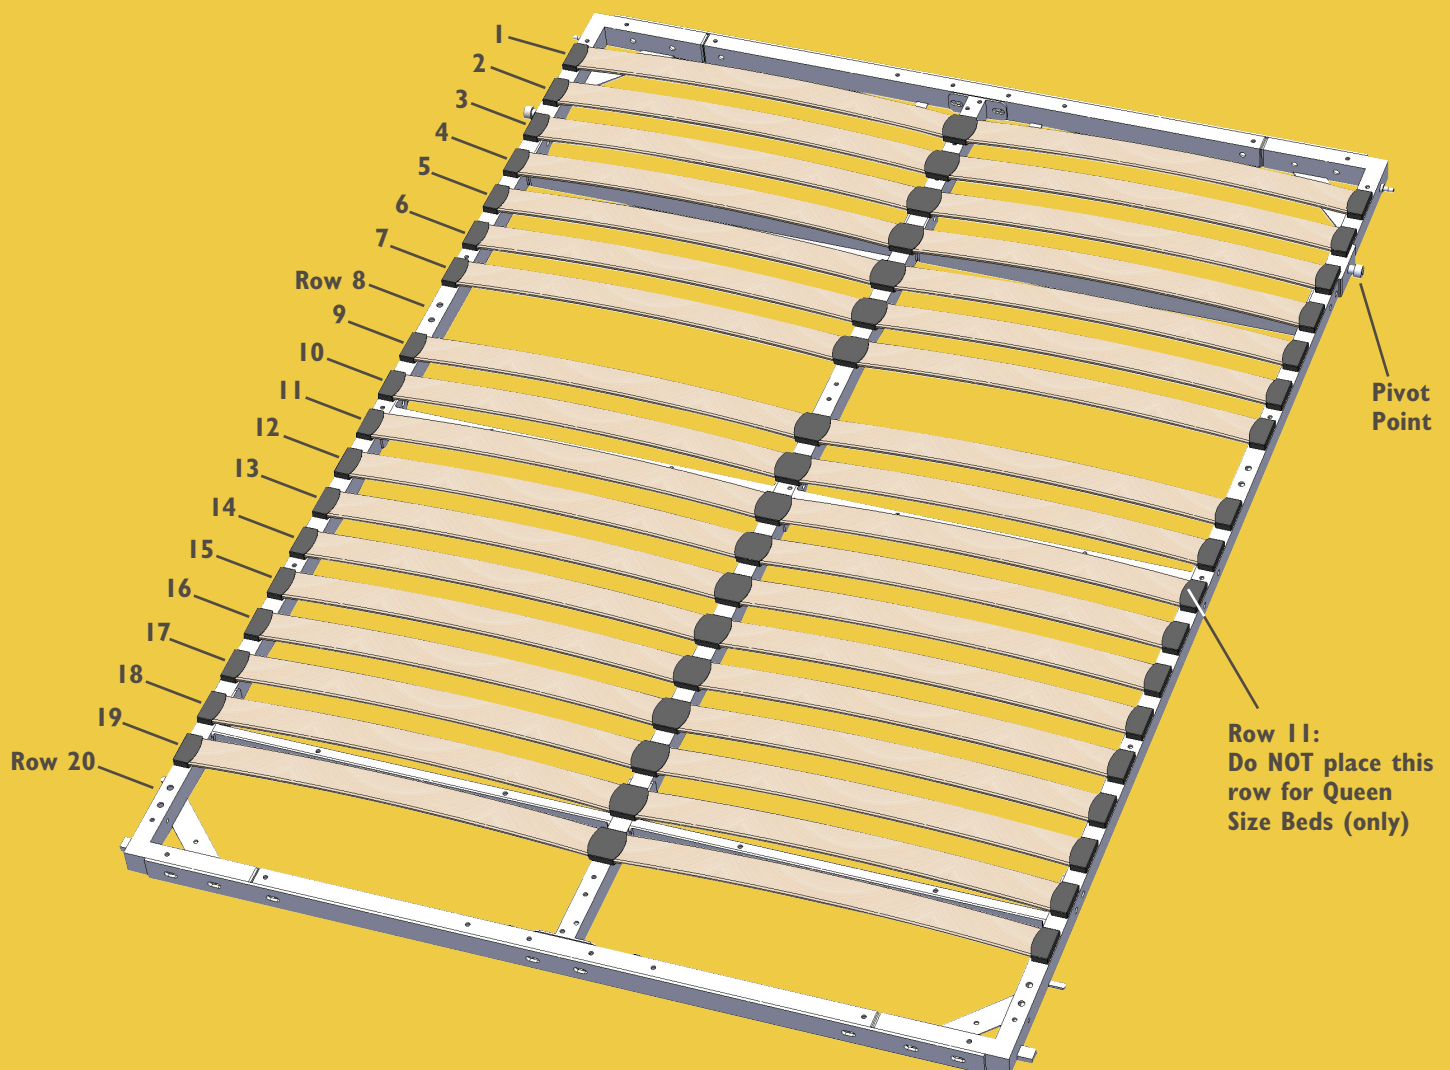

Fig. 9
4. Repeat to install all Slats, except those in Rows 8 and 20 in Twin and Full beds and Rows 8, 11 and 20 in Queen beds. **Fig. 9.** You will install these Slats later.